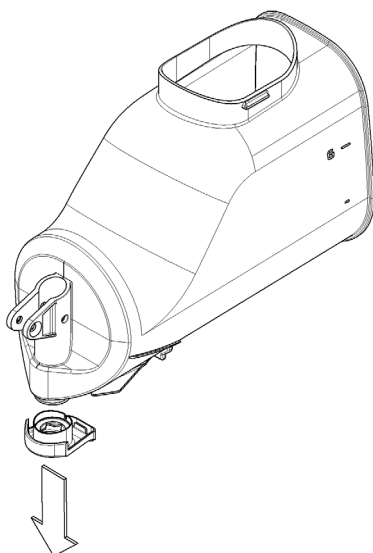

figure 8
- 7 Remove the flow restrictor from the container (see figure 8).
- 3 Reassemble the tap on the container in reverse order compared to that shown in figure 8.